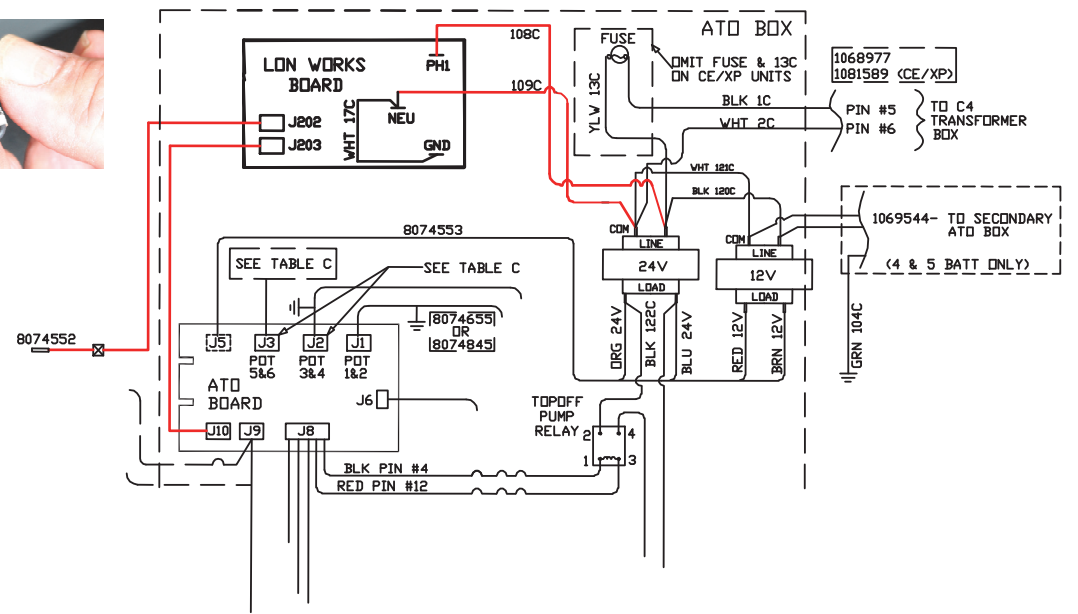

Figure 5: Annotated wiring schematic.
6. Remove piggyback connections connecting the LON to the transformer and remove LON wiring from piggybacks. **See Figure 2 and Figure 5, an annotated wiring diagram.**